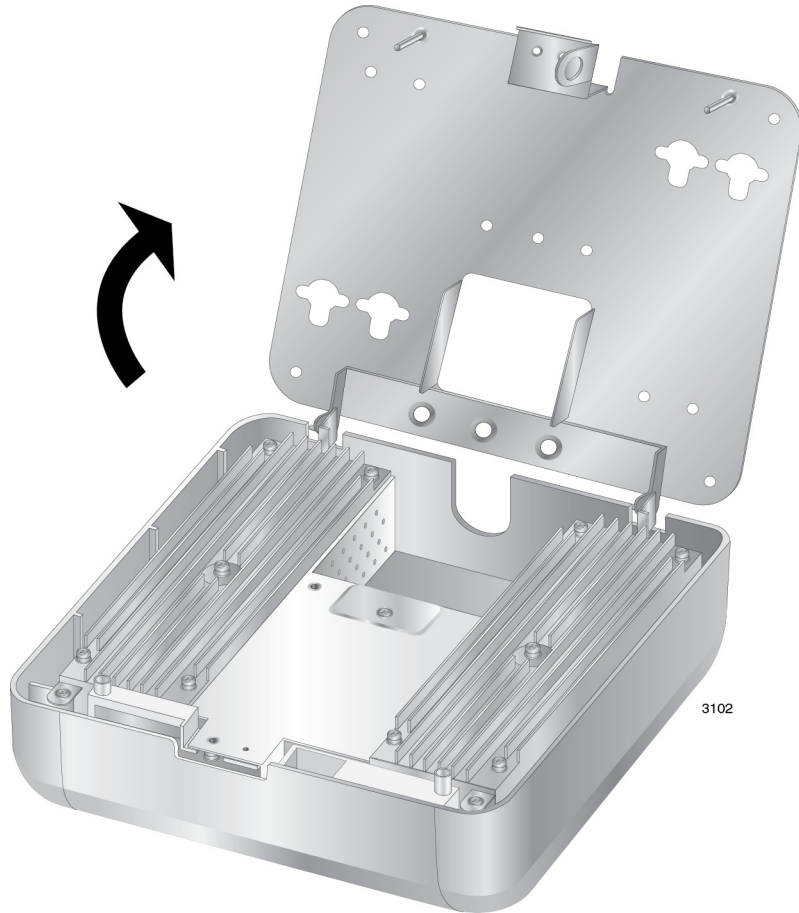

Figure 15. Opening the Bottom Panel
5. Open the bottom panel. Refer to Figure 15 on page 39.